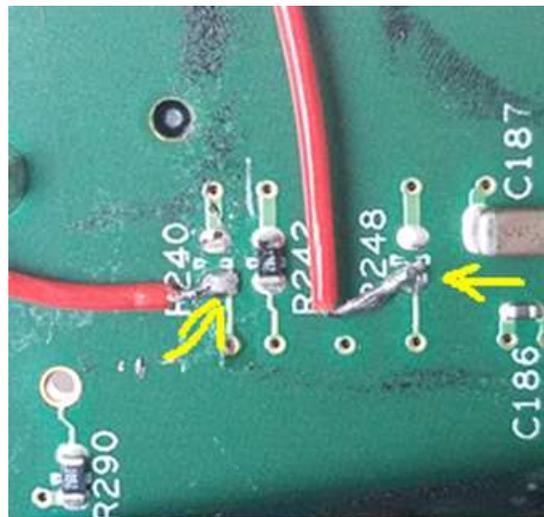

Figure 8. Close-Up of the Board Modifications and Attachment of Jumper Wires
- Remove R240 from the EVM and attach a wire to the pad that connects to I2S0_RX (see Figure 8)